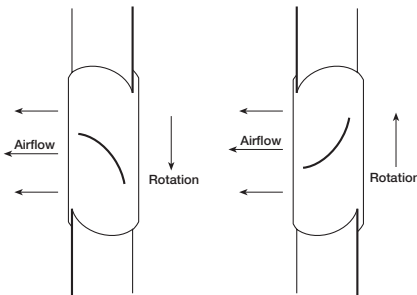

Figure 7 — Rotation Decal
12. Rotation direction of the propeller should be checked momentarily by turning the unit on. Rotation should be in the same direction as the rotation decal affixed to the unit or as shown in Figure 7. For 3-phase installations, fan rotation can be reversed by interchanging any two of the three electrical leads. For single phase installations follow the wiring diagram located on the motor or see Figure 13.
2. Start the fan up and shut it off immediately to check rotation of the propeller with directional arrow in the motor compartment. Refer back to Figure 7.